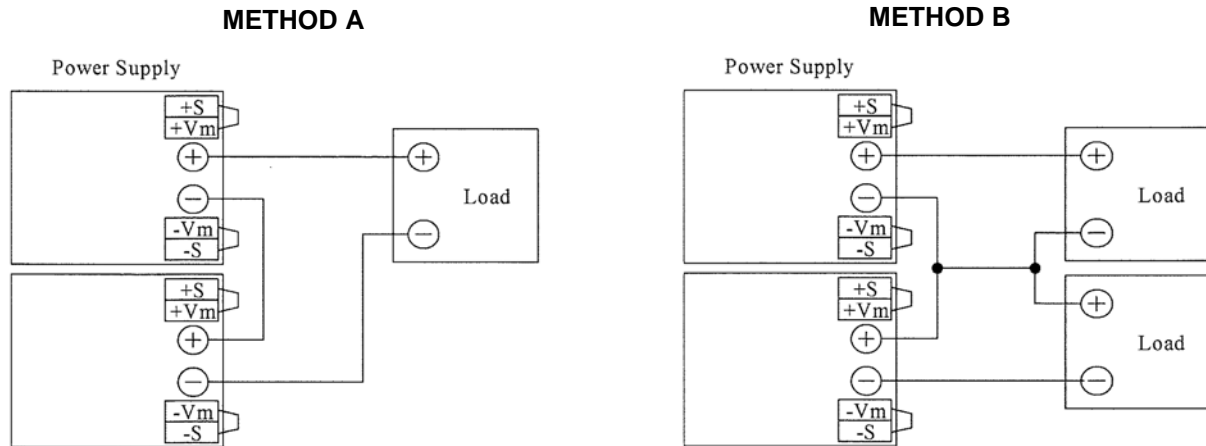

FIGURE 11. SERIES CONFIGURATIONS
For series operation to increase output voltage, see Figure 11. Both method (A) and (B) are possible. There might be a step in the output rise waveform during series operation.